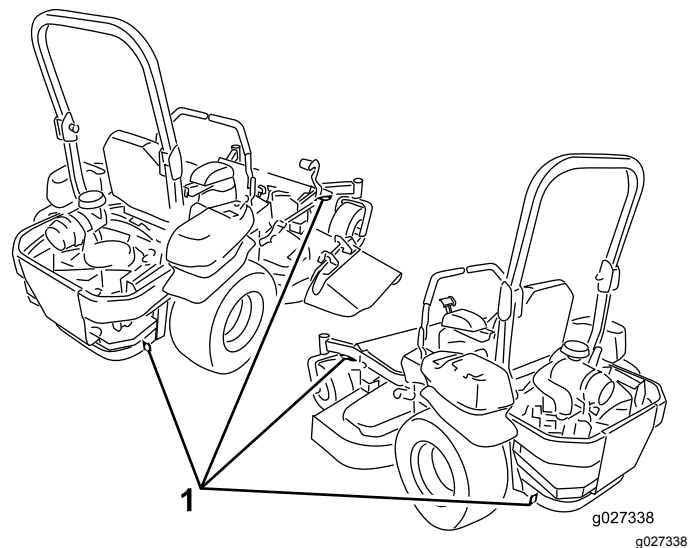

Figure 34
5. Use the metal tie-down loops on the machine to securely fasten the it to the trailer or truck with straps, chains, cable, or ropes (Figure 34).